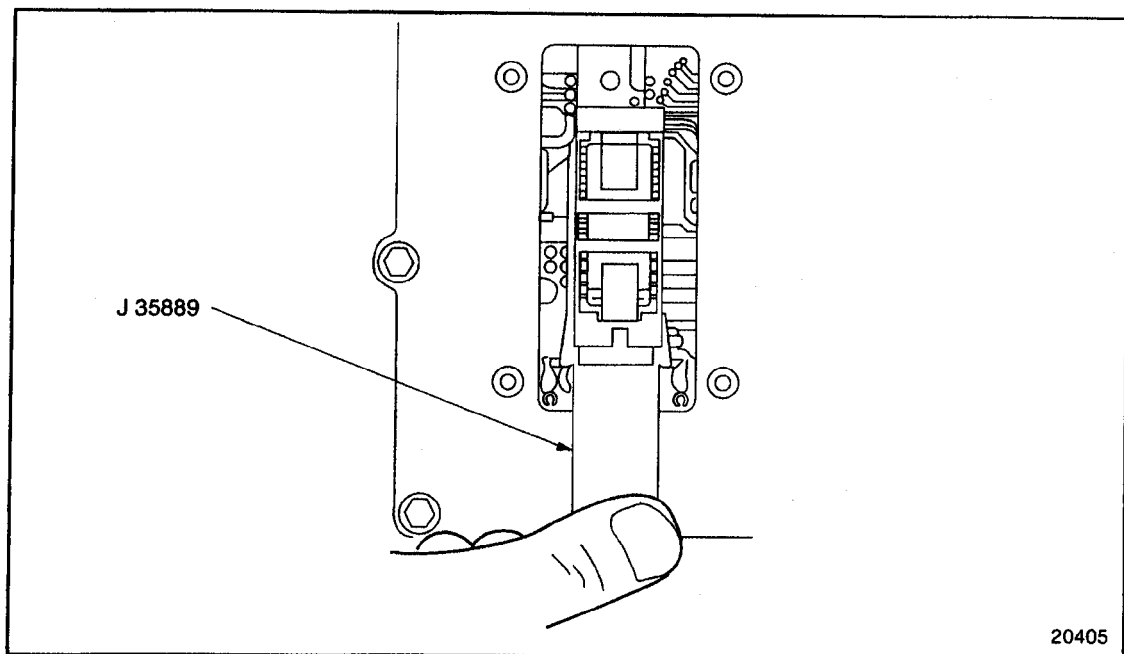

Figure 2-90 Removing PROM
3. Using the rocker type PROM removal tool, J 35889-A, engage one end of the PROM carrier with the hook end of the tool. See Figure 2-90.